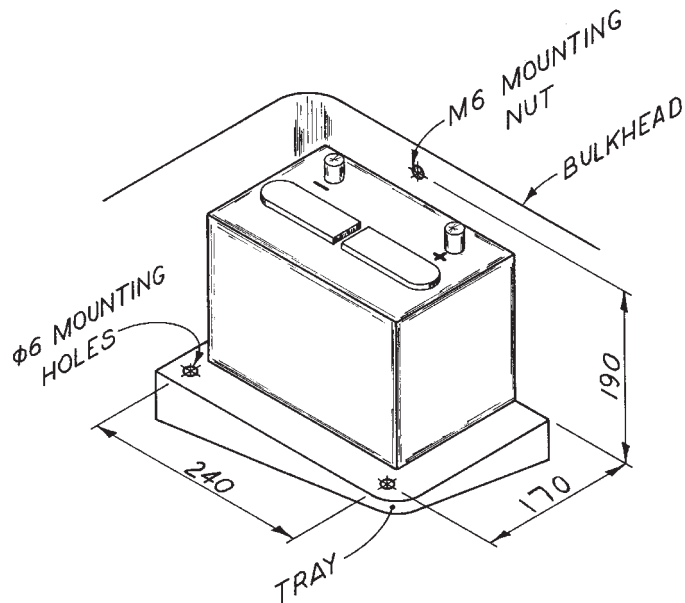

FIG. 4
The battery for a small sedan fits in the engine bay on a sheetmetal tray and against the bulkhead. The battery is 220 mm × 150 mm × 170 mm (high). One 6 mm mounting nut is welded in the bulkhead and two 6 mm holes are drilled in the tray. The arrangement is shown in Figure 4.
- (a) Design a bracket that will firmly hold the battery in place using the mounting facilities shown in Figure 4. In the space provided on page 11: